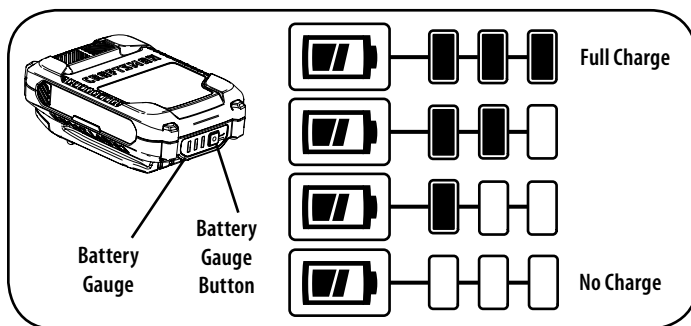

Figure 19
1. Press the battery gauge button on front of the battery pack to check charge level. See Figure 19: